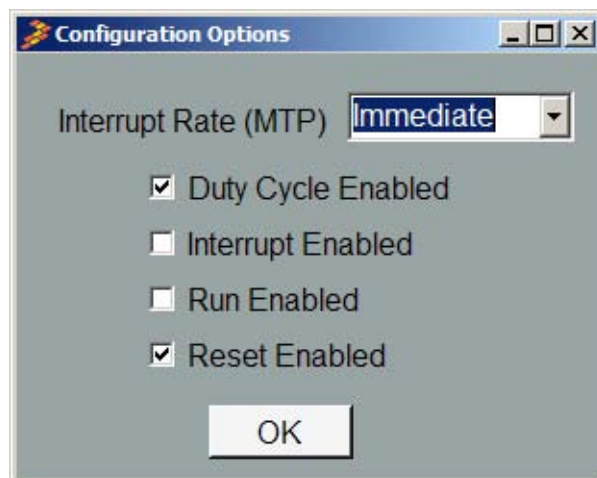

Figure 26. Configuration Options
- I. Configuration Register – The Configuration Register allows the user to reset the part, adjust interrupt settings, and change the mode (Figure 26).